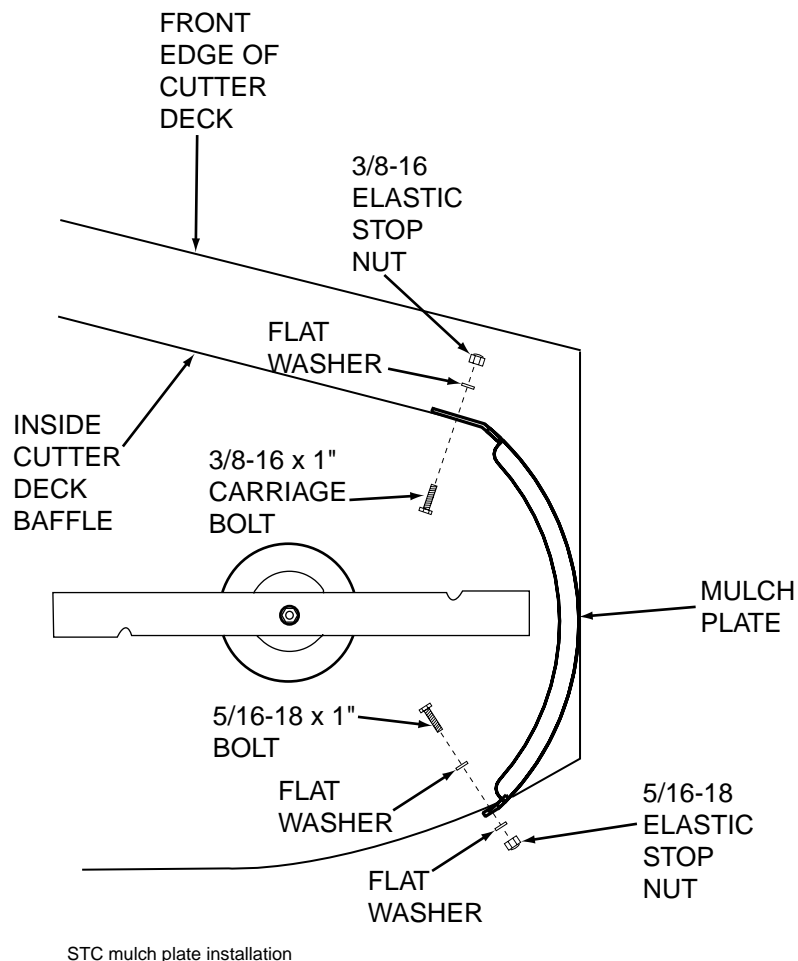

Figure 2. Mulching Plate Mounting for Tiger Cub Cutter Decks
2. Install the mulch plate and hardware using the illustration below for reference (See Figure 2).